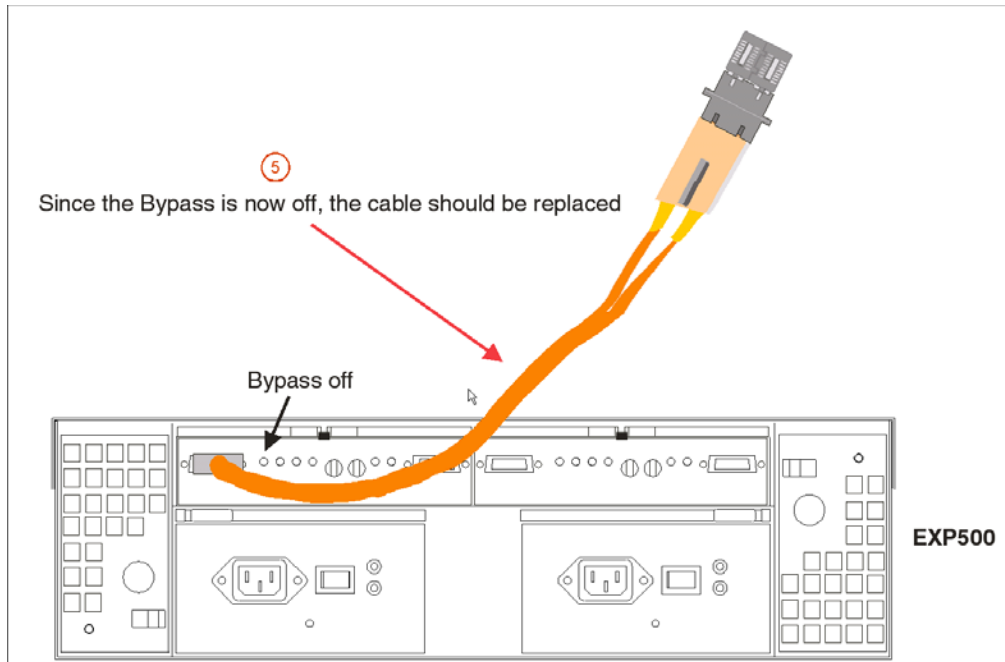

Figure 40. Insert wrap plug into element
5. As was shown in step 4, insert the wrap plug into the element from which the cable was removed in step 3. See Figure 40 on page 104.